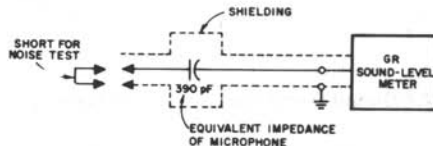

Figure 5-3. The microphone is removed and its equivalent impedance connected to the SLM input.
a. Remove the microphone (para 5.3, steps b and c) and replace it with the equivalent impedance (see Figure 5-3 and para. 3.6).